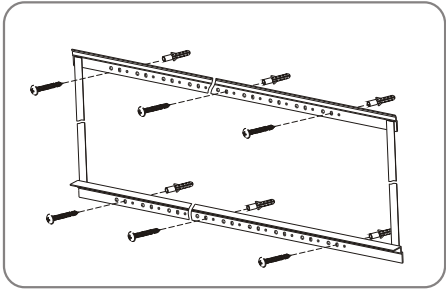

figure 12
- b. Concrete wall installation: drill six proper holes on the concrete wall with electric drill, then fix the top and low bracket on the wall using the  $\phi 5 \times 40 \text{mm}$  tapping screw and then fasten with the anchor (3 screws on each bracket) (figure 12).